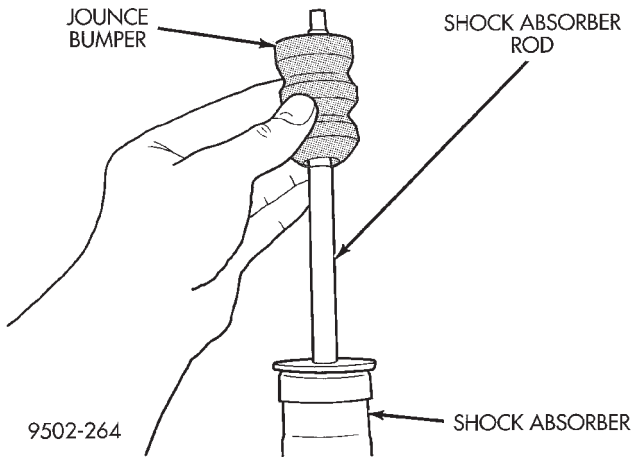

Fig. 97 Jounce Bumper Installation
(3) Install the jounce bumper on the shock absorber rod with the tapered end down (Fig. 97).